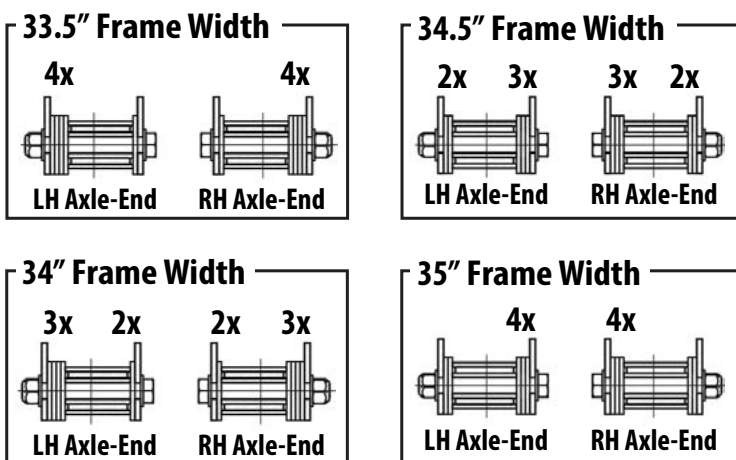

Figure 2.
- Count the number of wear washers on each side of the bushing on the Axle-End Torque Rod Assembly. The wear washer number varies according to the pre-set frame width (Figure 2).